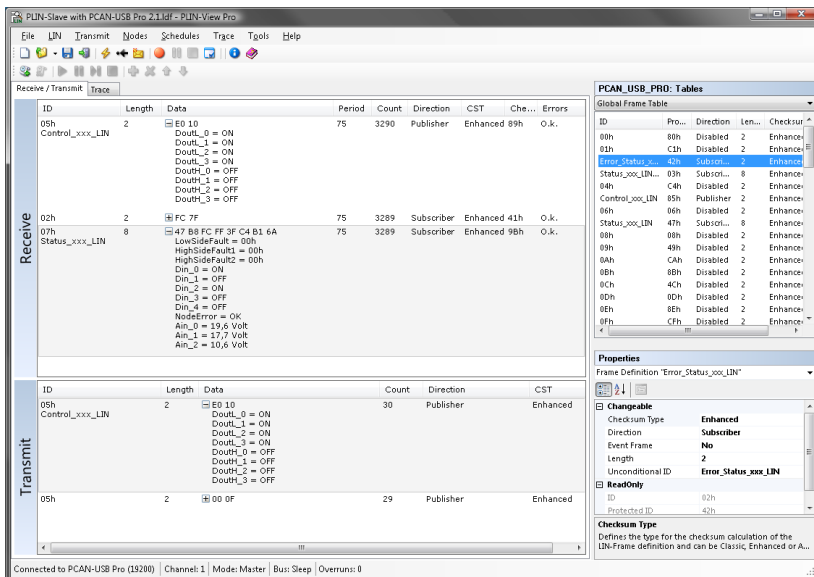

Figure 19: Receive/Transmit tab
6. Finally confirm the settings in the dialog box with **OK**. The main window of PLIN-View Pro appears (see Figure 19).